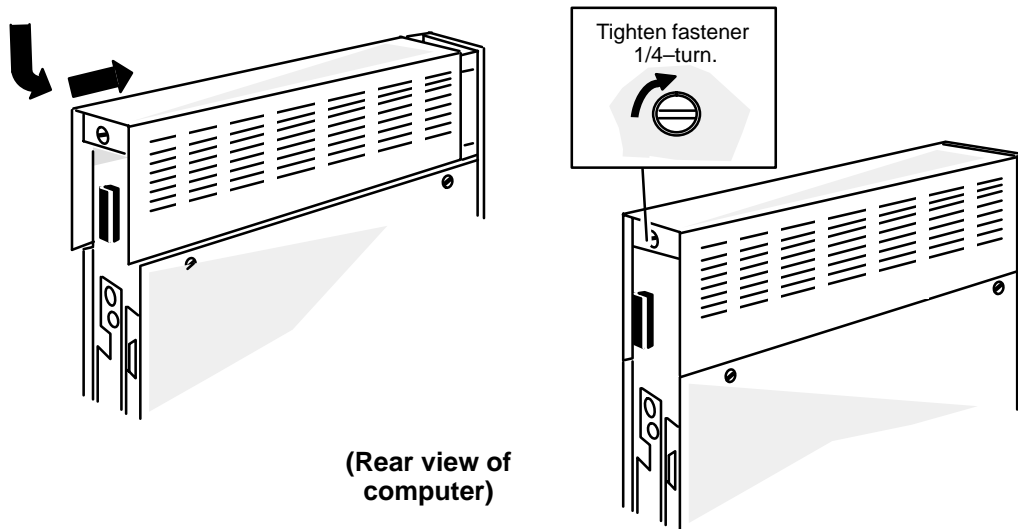

Figure 6-9 Installing the Top Cover
3. Push the top cover toward the front of the computer unit, as shown in Figure 6-9 until the front edge of the top cover is flush with the front edge of computer unit.
4. Using a coin or screwdriver, tighten the fastener by turning it one-quarter turn clockwise as shown in Figure 6-9.